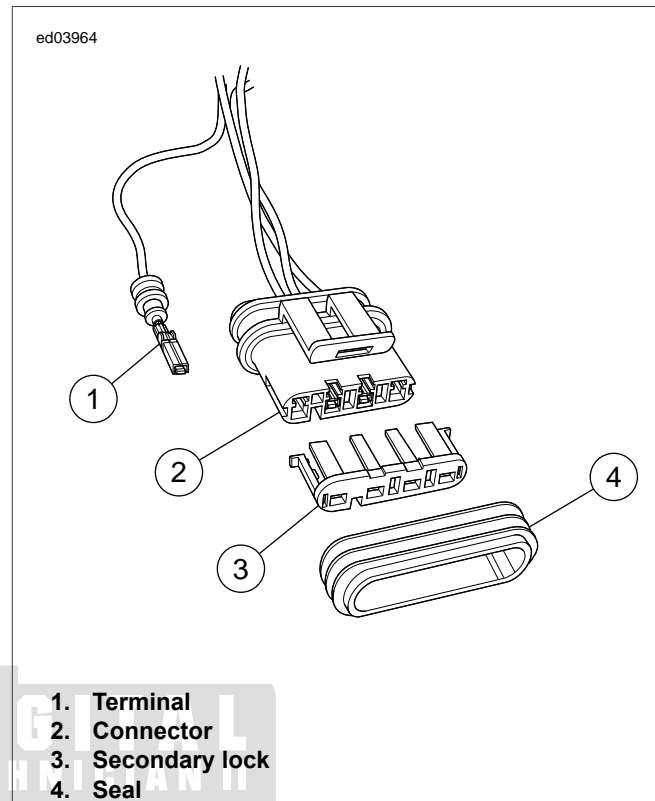

Figure B-41. Tyco SuperSeal 1.5 Sealed Connector
2. See Figure B-41. Remove seal from connector.
4. See Figure B-41. Install secondary lock into connector.